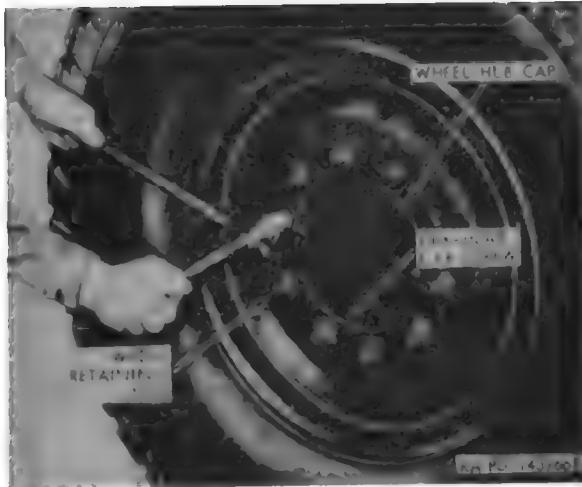

Figure 141. Removing or installing wheel retaining nuts.
- (4) Remove the ten wheel retaining nuts (figs. 141 and 142).
b. Remove the four hexagon head cap screws and lock washers (fig. 141) holding the hub cap and paper gasket to the hub (fig. 144). Straighten the edge of the wheel lock which is bent over the wheel spindle hexagon plain nut. Using the combination